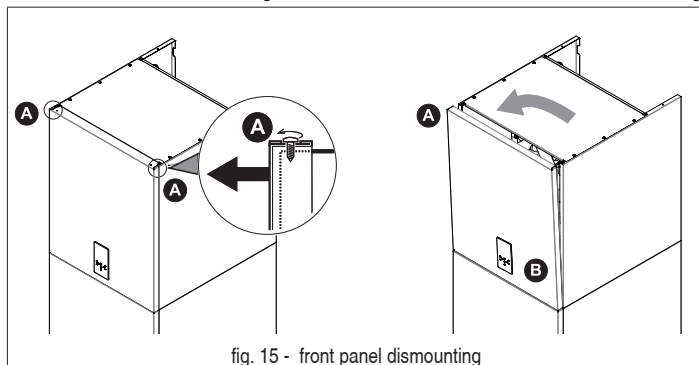

fig. 15 - front panel dismounting
- Partially unscrew the screws A (see "fig. 15 - front panel dismounting").
- Pull the panel B out and release it from the upper fixings (see "fig. 15 - front panel dismounting").